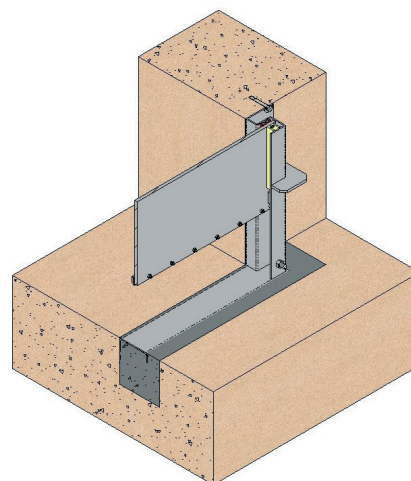

Fig. 33
- In order to mount the penstock with the base embedded in the concrete (fig. 33), the civil work must have housing in the ground (fig. 28 and fig. 29). Once the penstock is in position in the housing, align it with regards to the wall orifice, ensuring that the base of the penstock is level with the civil work, thus ensuring that there is no protrusion in the base and guaranteeing entirely continuous passage. Make the boreholes necessary for the upper and side profiles, using the holes of the body of the penstock as a guide. Remove the penstock and apply sealing paste such as SIKAFLEX-11FC or similar where the penstock is to be located on the wall, in order to prevent leakages between the body and the wall. Return the penstock to its location and screw down with chemical or expansion anchors using the usual procedure, namely with the help of a flat rule, screwing crosswise and without excessive force.